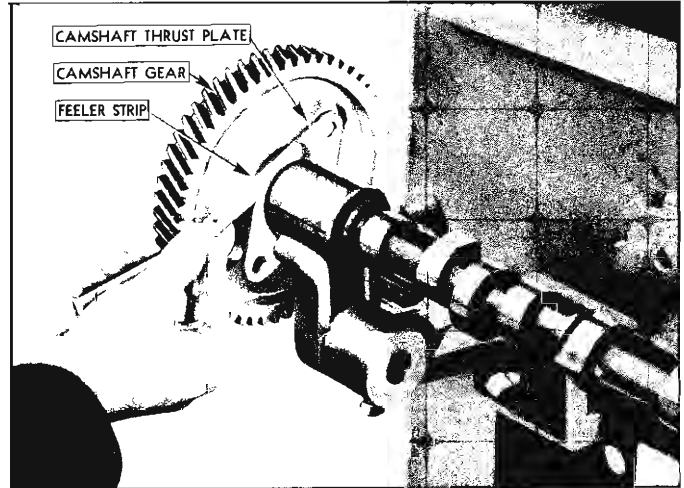

Fig. 24—Checking Camshaft End Play
1. If the inspection indicated that the camshaft, gear and thrust plate were in good condition, the camshaft end play should be checked (fig. 24). This clearance should be .001" to .005".